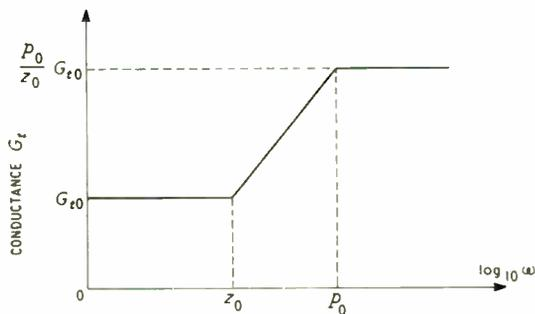
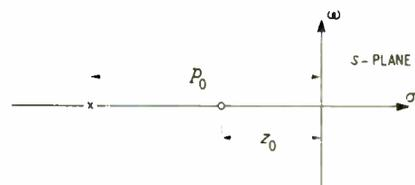

Fig. 4. Approximate straight line representation of conductance  $G_t$
Fig. 5. Pole-zero map of admittance  $Y_t$
and so Equation (9) corresponds to the approximate straight line characteristic of Fig. 4. Further, the admittance  $Y_t$  of Equation (8) corresponds to the pole-zero map of Fig. 5 and, therefore, the admittance  $Y_t$  can be realized as a resistance-capacitance network. The admittance  $Y_t$  is a minimum susceptance one in that its susceptance characteristic can be determined from its conductance characteristic and vice versa.